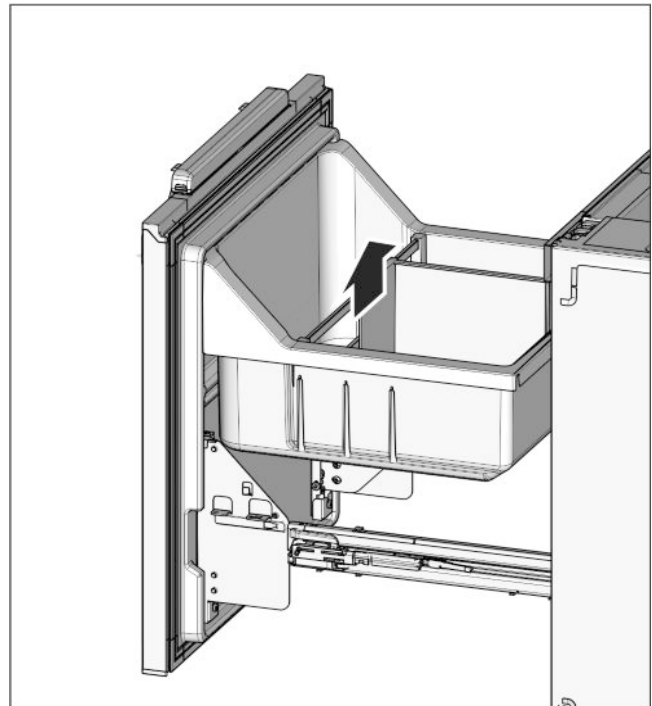

Fig. 24
- ▶ Re-insert the bottle rack Fig. 24 (32) and vegetable bin Fig. 24 (31).